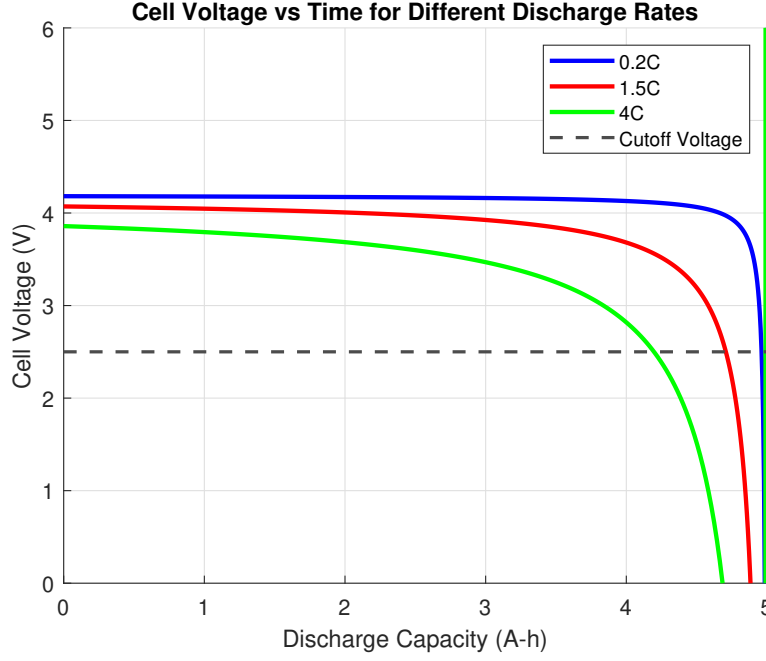

Figure 2.5: Cell voltage as function of discharged energy.
d) After performing these calculations, we compare the energy delivered at different C-rates (0.2C, 1.5C, and 4C) with the theoretical energy. The available energy at each discharge rate can be seen in Table 2.1. The cell voltage as a function of discharged energy is shown in Figure 2.5.